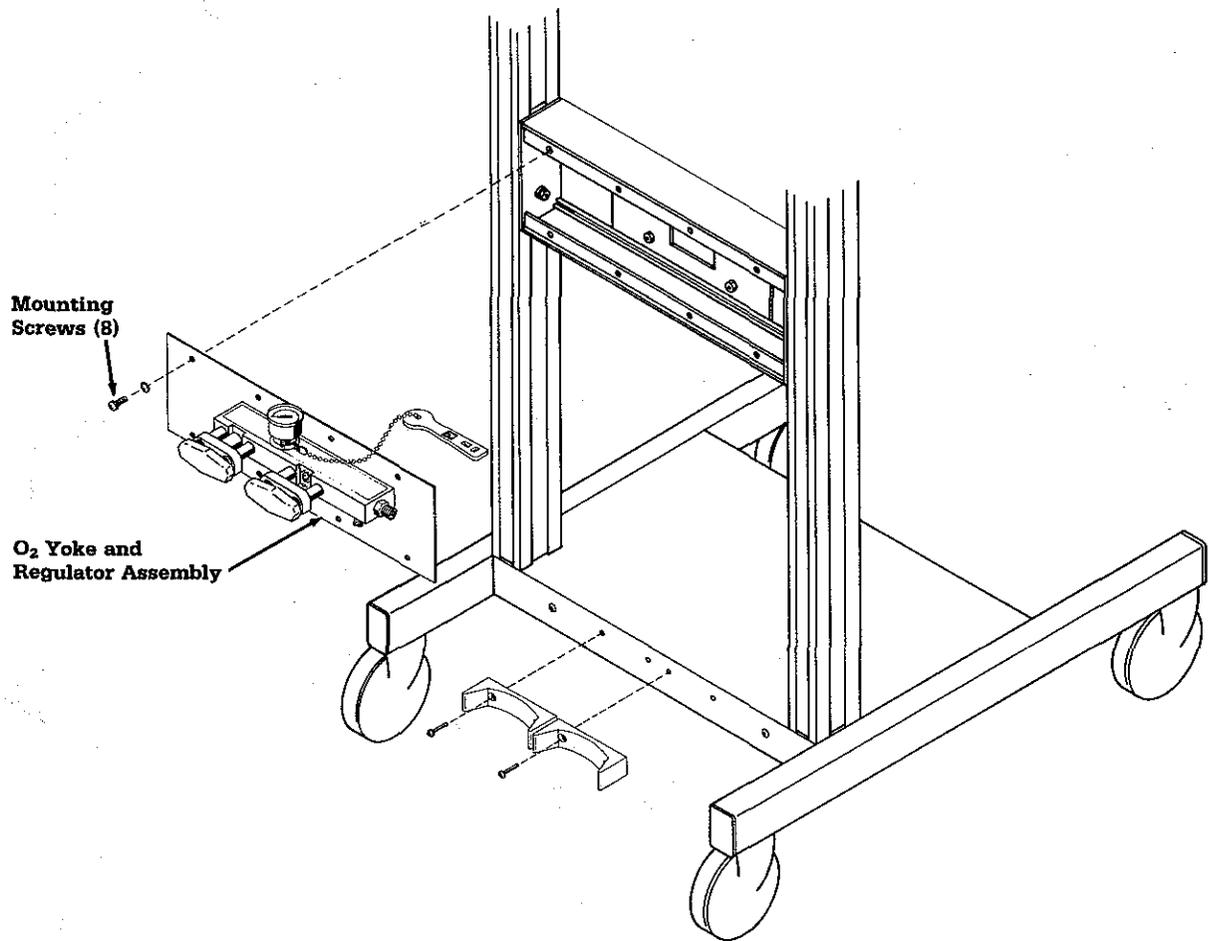

Figure 5-17
F. High Pressure Regulator Repair (Figure 5-17 and 5-18)